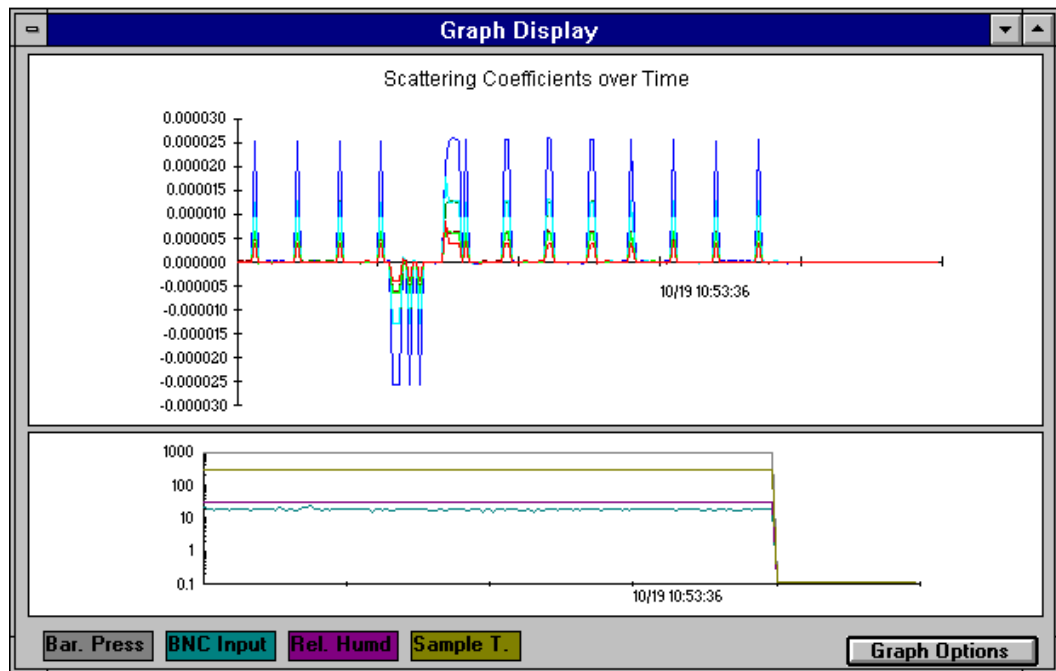

Figure 5-8
4. Double-click on the **Graph Display** icon (you don't need to close any of the other windows) to display the information that has been collected by the Nephelometer so far (Figure 5-8).